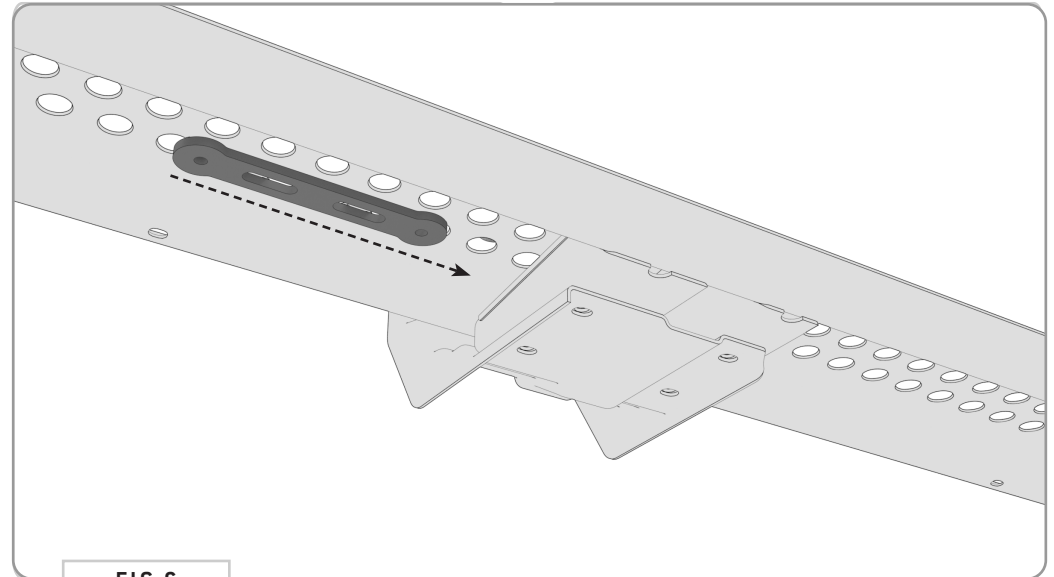

FIG 6
3.1 Position Sandwich Plate: Take the **Sandwich Plate** and position it by sliding it between the support arm and dimpled top plate of your side steps (**FIG 6**). Make sure it is in the orientation as shown in **FIG 7** that has the raised flanges facing upward. These will nestle around the downward-facing dimples of the Trail Side Steps.